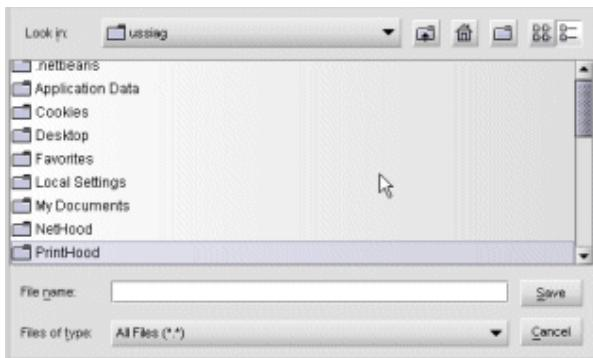

Figure 57 New Firmware Version dialog box
4. Click **New**. The New Firmware Version dialog box is displayed (Figure 57).